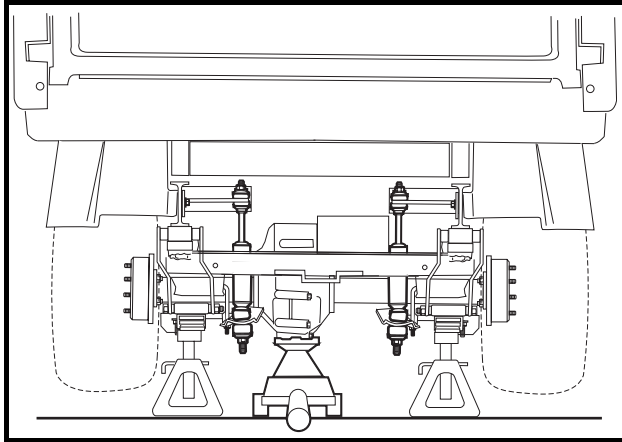
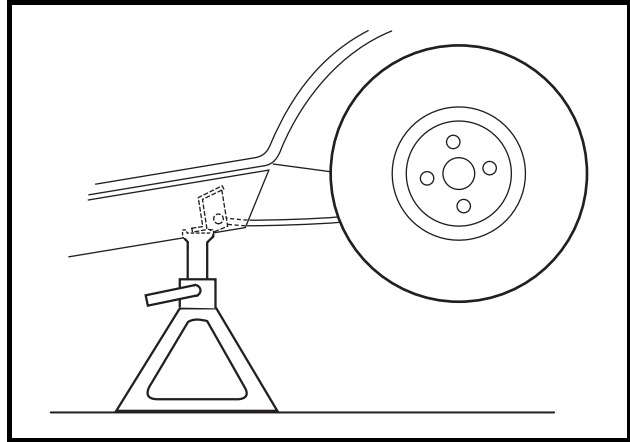

Figure 26-1 Lift Vehicle with Floor Jack
Figure 26-2 Vehicle Supported on Jack Stands
4. Place floor jack under transaxle and raise rear of vehicle (**Figure 26-1, Page 26-3**) then place jack stands under frame crossmember between the spring mount and the side stringer, just forward of each rear wheel. Lower the vehicle to let the jack stands support the vehicle (**Figure 26-2, Page 26-3**). See following **WARNING**.